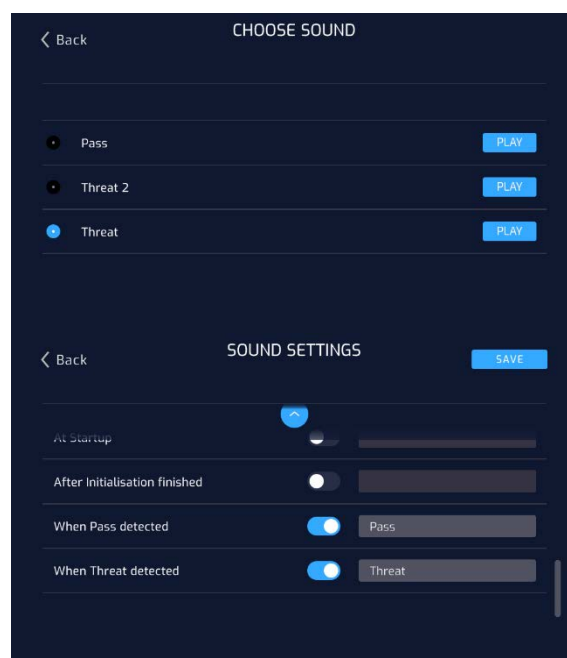

Figure 57: Sound Settings Screen with enabled sounds
To enable a sound on the Sound Settings Screen (52), press the Switch button next to the event. To select a different sound file, press the button right next to the Switch button and the Sound Selection Screen will be displayed as illustrated in Figure 57.